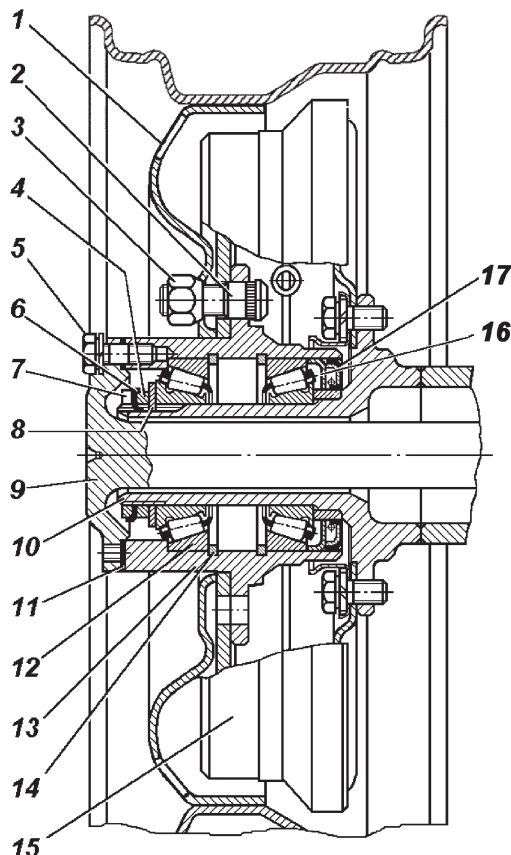

Fig. 9.31. Rear wheel hub:
2. Remove the wheel coverage. Take out axle shaft 9 (Fig. 9.31) of the rear axle or remove the driving flange of the front axle.